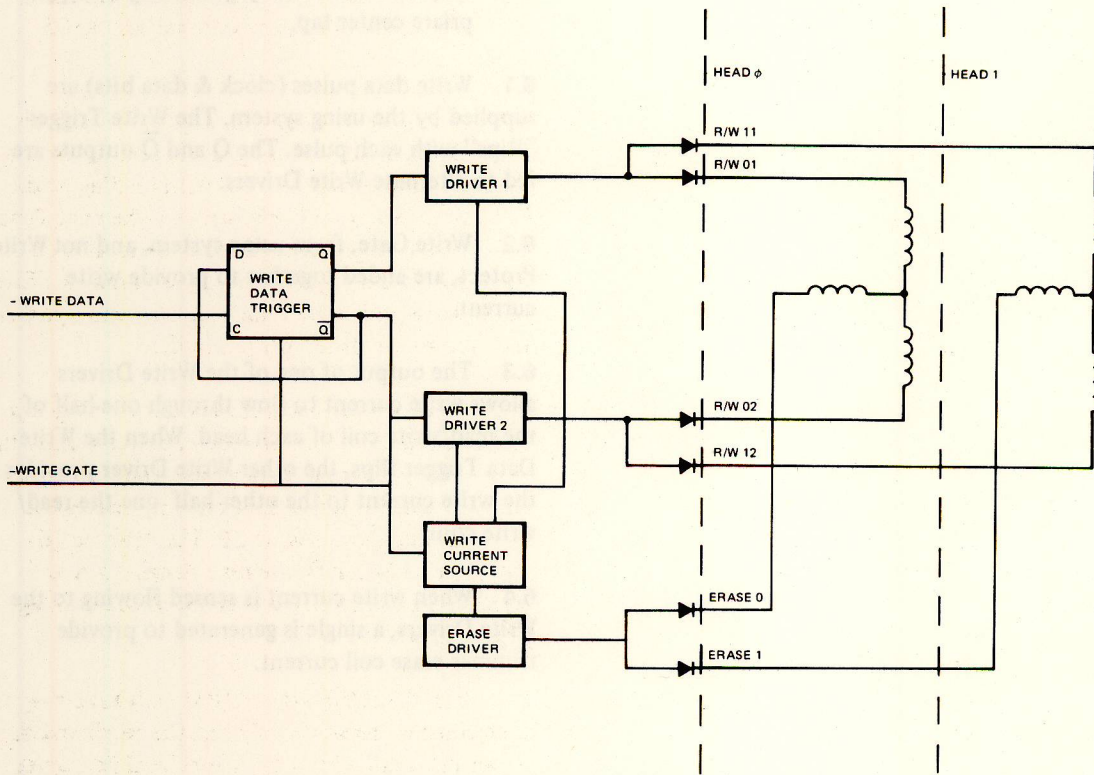

FIGURE 31 WRITE CIRCUIT FUNCTIONAL DIAGRAM
6.0 WRITE CIRCUIT OPERATION (Figure 31)